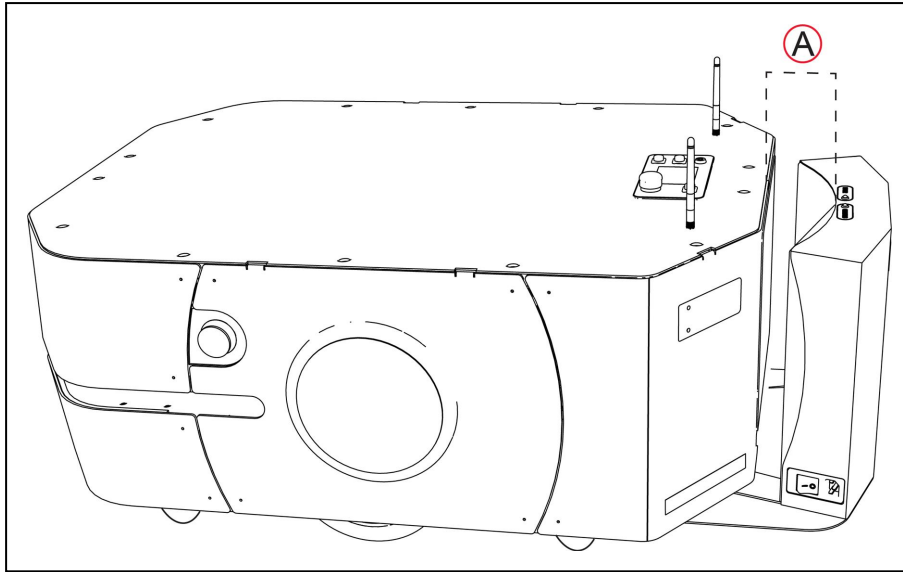

Figure 7-3 Approximate 50 mm Gap Between the LD-250 and the Docking Station
Do not push the LD-250 too far back. It should remain approximately 50 mm from the upright part of the docking station. See (A) in Figure 7-3.